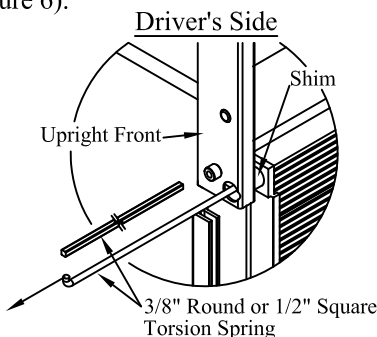

Figure 5: Torsion spring.
9. **Remove** the torsion spring from the driver side upright front (Figure 5).